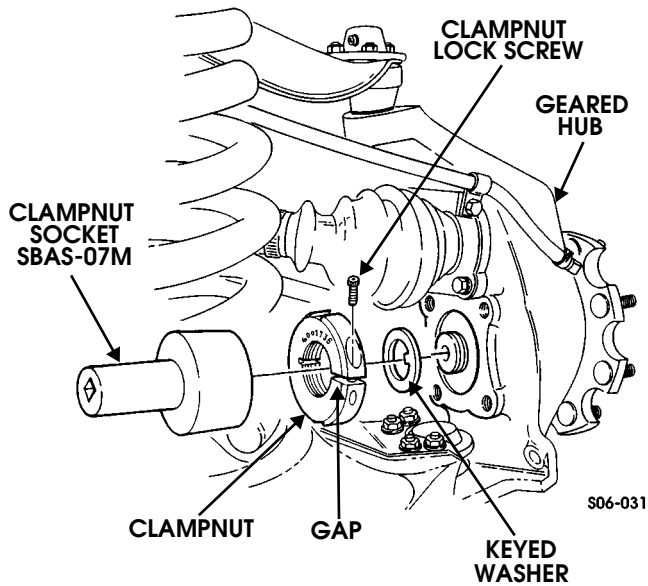

Figure 9-40: Clampnut Installation
10. Using clampnut socket SBAS-07M, tighten clampnut to 40 lb-ft (54 N•m). Rotate spindle five revolutions both clockwise and counterclockwise to seat bearings (Figure 9-40).